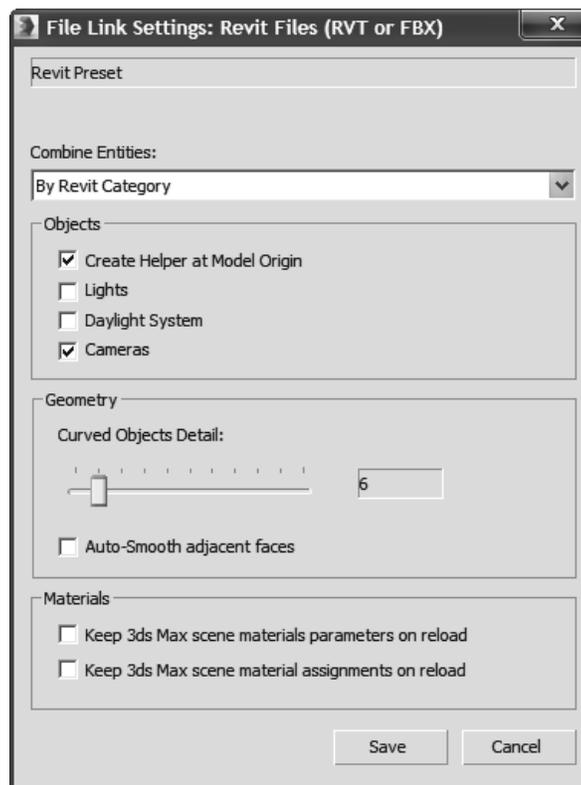

Figure 3–34
9. In the File Link Settings dialog box, in the Combine Entities drop-down list select **By Revit Category**. In the *Objects* area, clear **Lights** and **Daylight System**. Select **Create Helper at Model Origin** and **Cameras**. In the *Geometry* area, set *Curved Objects Detail* to **6**. Verify that both **Keep 3ds Max scene materials parameters on reload** and **Keep 3ds Max scene material assignments on reload** are cleared, as shown in Figure 3–34. Click .